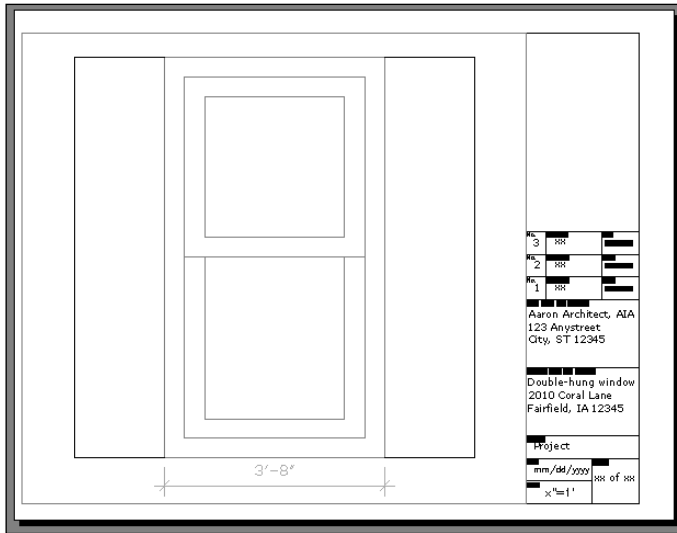

Figure QS-7: Viewing the window in Preview mode.
30. Click the Preview button to open the preview window. You should see the window and its title block laid out as shown in Figure QS-7.
If your drawing doesn't look like the image shown in Figure QS-7, there could be several reasons for this. To fix the problem, try one of the following solutions: